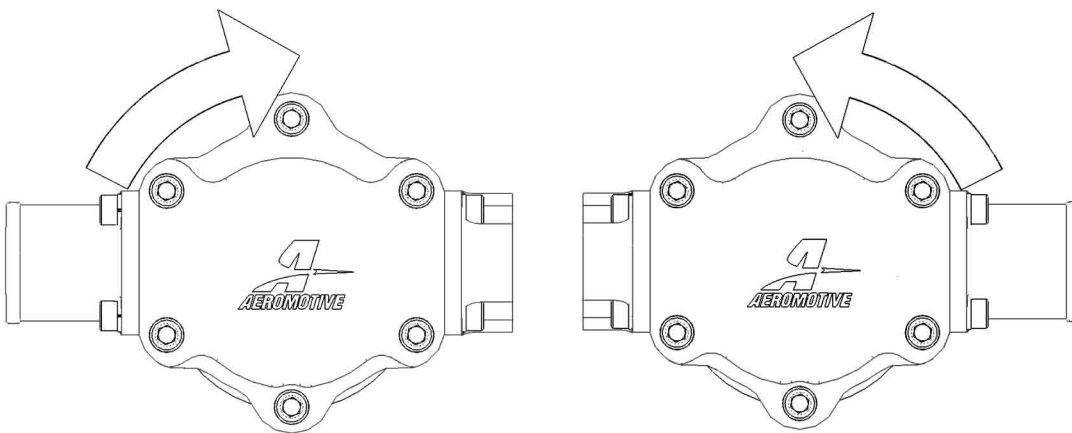

Figure 1a
4. Determine which direction the fuel pump shaft will rotate. The direction the shaft is rotated will determine which port is the inlet and which is the outlet. Using Figure 1a & 1b as a reference identify the fuel pump inlet and outlet ports. If the fuel pump shaft is rotated in a clockwise direction as viewed from the front of the pump the inlet and outlet ports will be as shown in Figure 1a. If the fuel pump shaft is rotated in a counter-clockwise direction the inlet as shown in figure 1a now becomes the outlet and the outlet in figure 1a is now the inlet, this is shown in figure 1b.